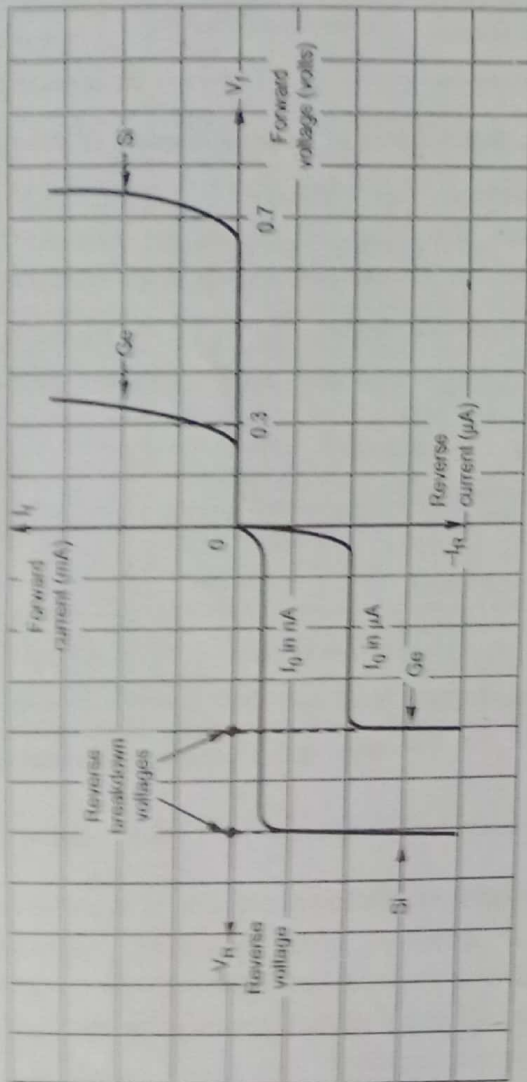

Fig. Q.7.1 V-I characteristics of typical Ge and Si diodes
- The Fig. Q.7.1 shows the V-I characteristics of typical Ge and Si diodes.